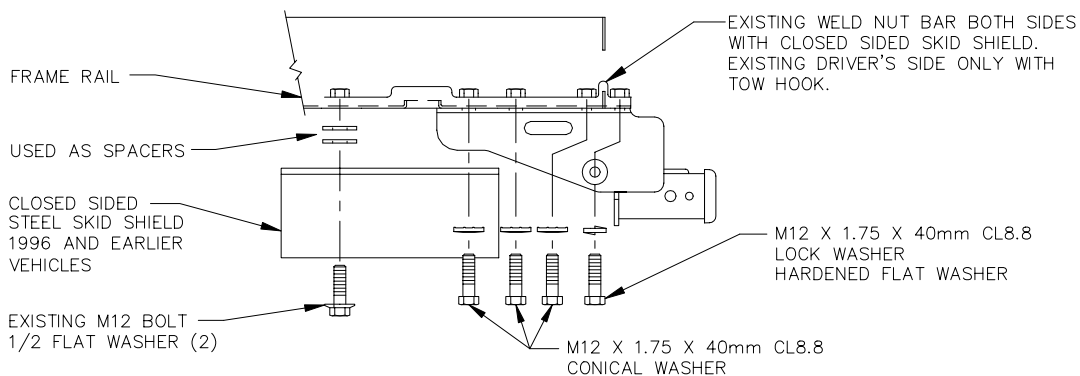

FIGURE 2
REFER TO SHEET 2 FOR FIGURES 2, 3, 4 AND 5.
2. OPTION A - SEE FIGURE 2
OPTION C - SEE FIGURES 2 & 3